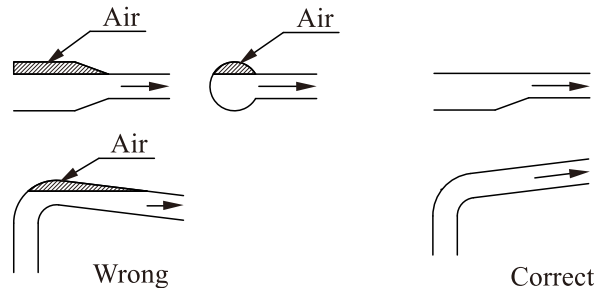

Figure 2
- The air pockets shall be avoided when installing the inlet pipe line. see Fig.2